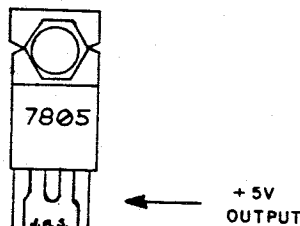

FIGURE 4
- [ ] Apply power (+8v to +10v) to the board by plugging into the computer or by connection to a suitable power supply (with power turned-off). Measure the outputs of the +5v regulators (X1, X2, X3, X4). The voltage should be +5.0v (+/- 0.2v). If the regulator doesn't meet this test, check the board for shorts or errors. (See Figure 4 for the pin assignments of the regulator.)